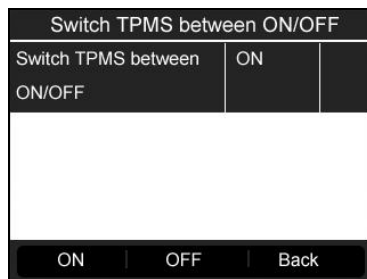

Figure 4.41
- 5) Press the corresponding **FUNCTION BUTTON 'ON' or 'OFF'** to turn ON/OFF the TPMS on the vehicle. (Figure 4.41)